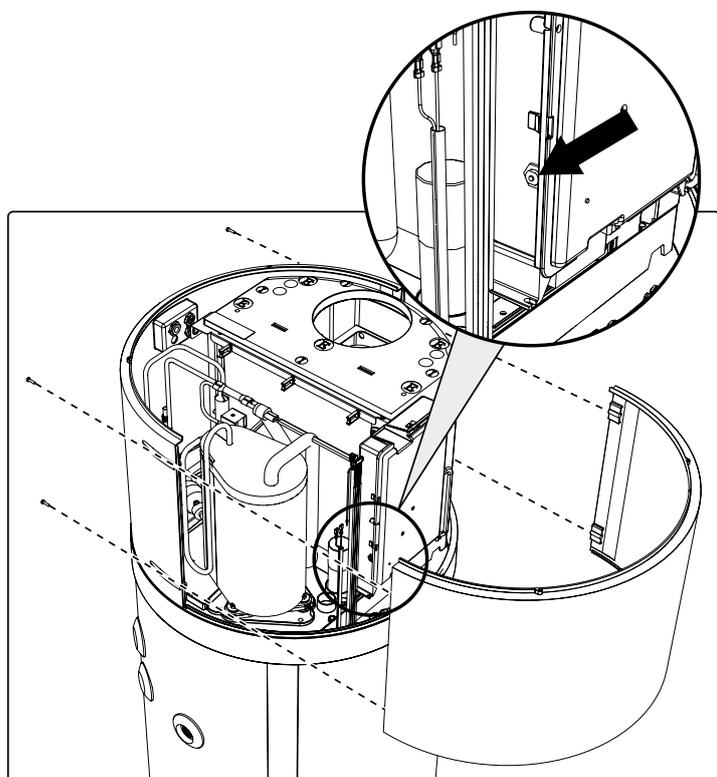

fig. 78- Front panel removal
- Remove the front panel and manually reset the tripped safety thermostat (fig. 78). In case of intervention, the central pin of the thermostat comes out by about 2 mm.